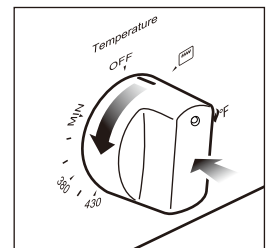

Fig.3
The numbers printed on the control panel (Fig.3) indicate the increasing oven temperature value (°F). To regulate the temperature, set the chosen number onto the knob indicator.
2) Turn the knob to the oven burner (oven burner temperature adjustment range is MIN to MAX, the knob can be turned to any position in this range for ignition, Fig.3), the oven automatically ignites, and it lights within 5.5 seconds; If it can't be lighted for the first time, ignite it again after 12 seconds, and it lights within 5.5 seconds; If it can't be lighted after repeating for 3 times, you need to reset the knob to OFF and then turn it on again.